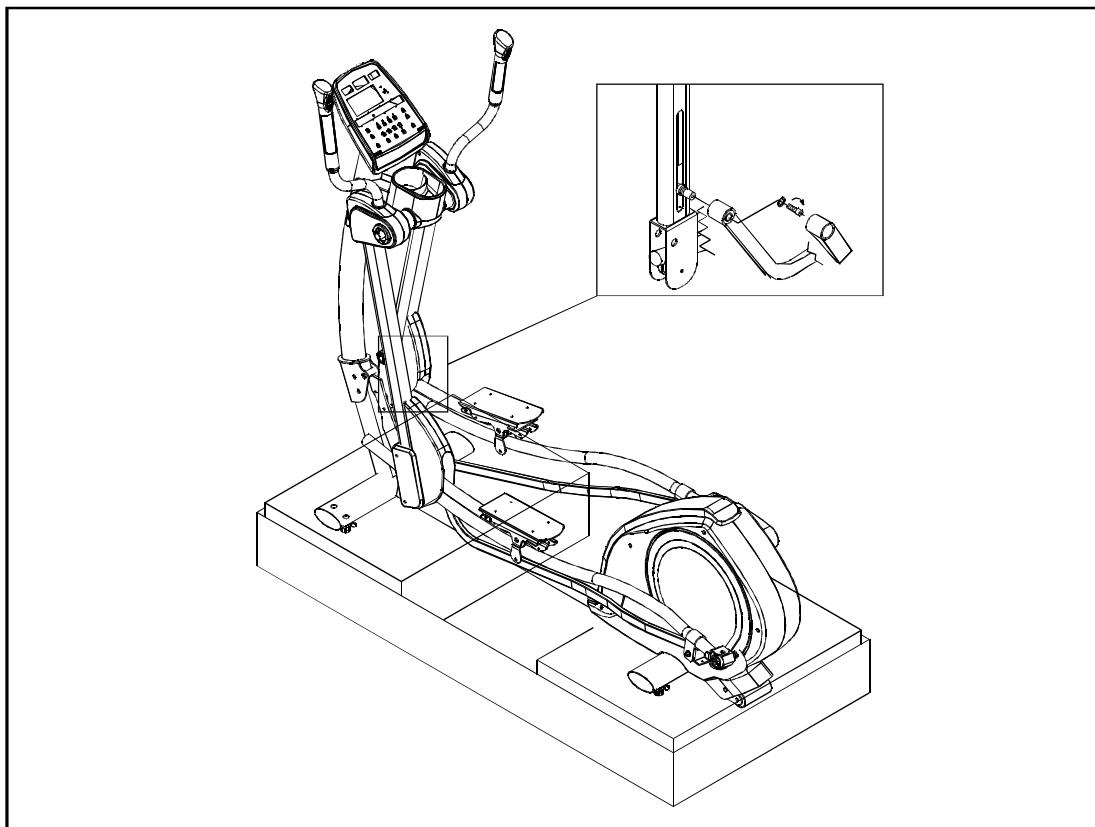

Fig.3
STEP 6. Put the Stride Linkage in place and use the bolt and washer to secure it onto the Stride Support Assembly. Then press the stride linkage cover into place. See Fig.3 for reference. Complete steps 4, 5, and 6 on the other side of the unit too. (See Fig 3)